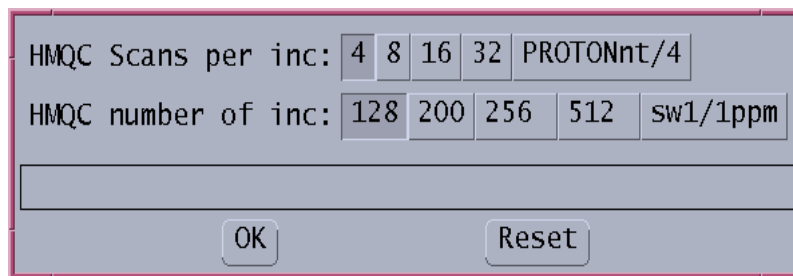

Figure 20. HMQC Customization Window
10. Click on the **HMQC** button in the middle row of the experiment selection menu to open the HMQC customization window shown in Figure 20.